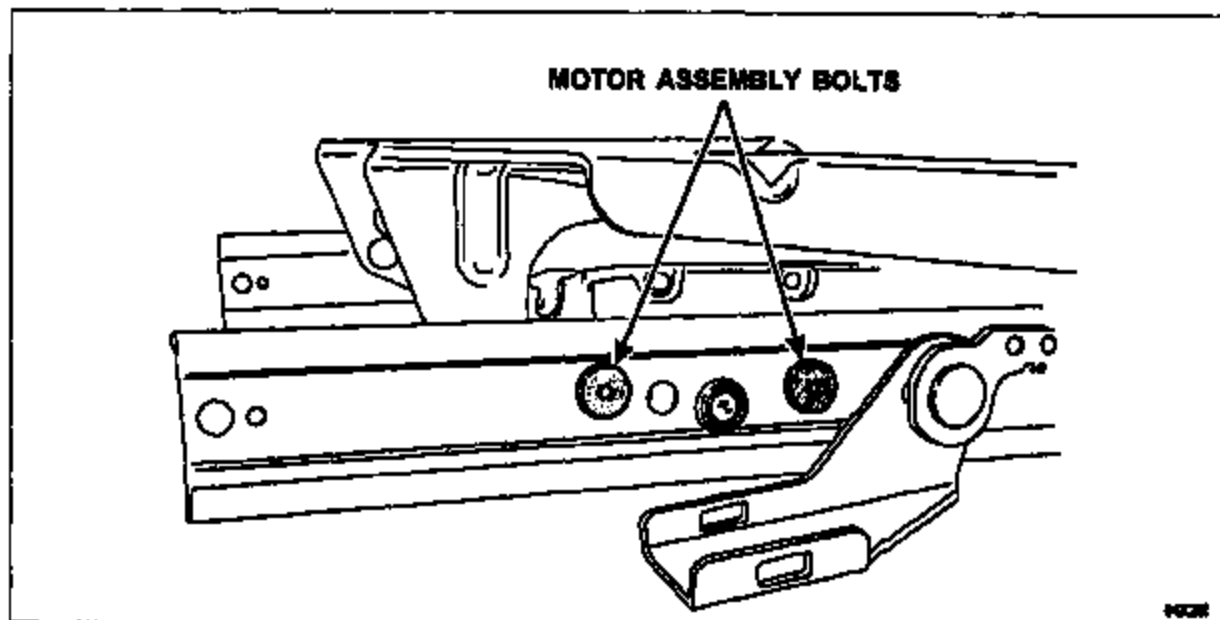

FIGURE 9
See Figure 9.
Install the two (2) bolts holding the seat track motor assembly to the outboard track. Tighten to 12 Nm (9 lb-ft). See Figure 9.